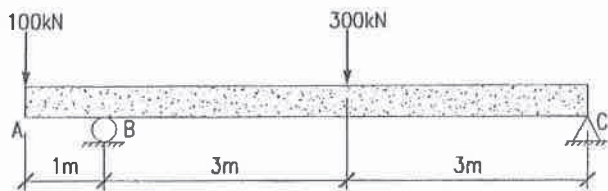

FIGURE B1
- B1. Design a T-section for the simply supported concrete beam, with an overhang as shown in Figure B1. Determine the amount and layout of the steel reinforcement required to satisfy moment and shear. Take into account the self-weight of the beam. (Use $f'_c = 35$ MPa and $f_y = 400$ MPa.)